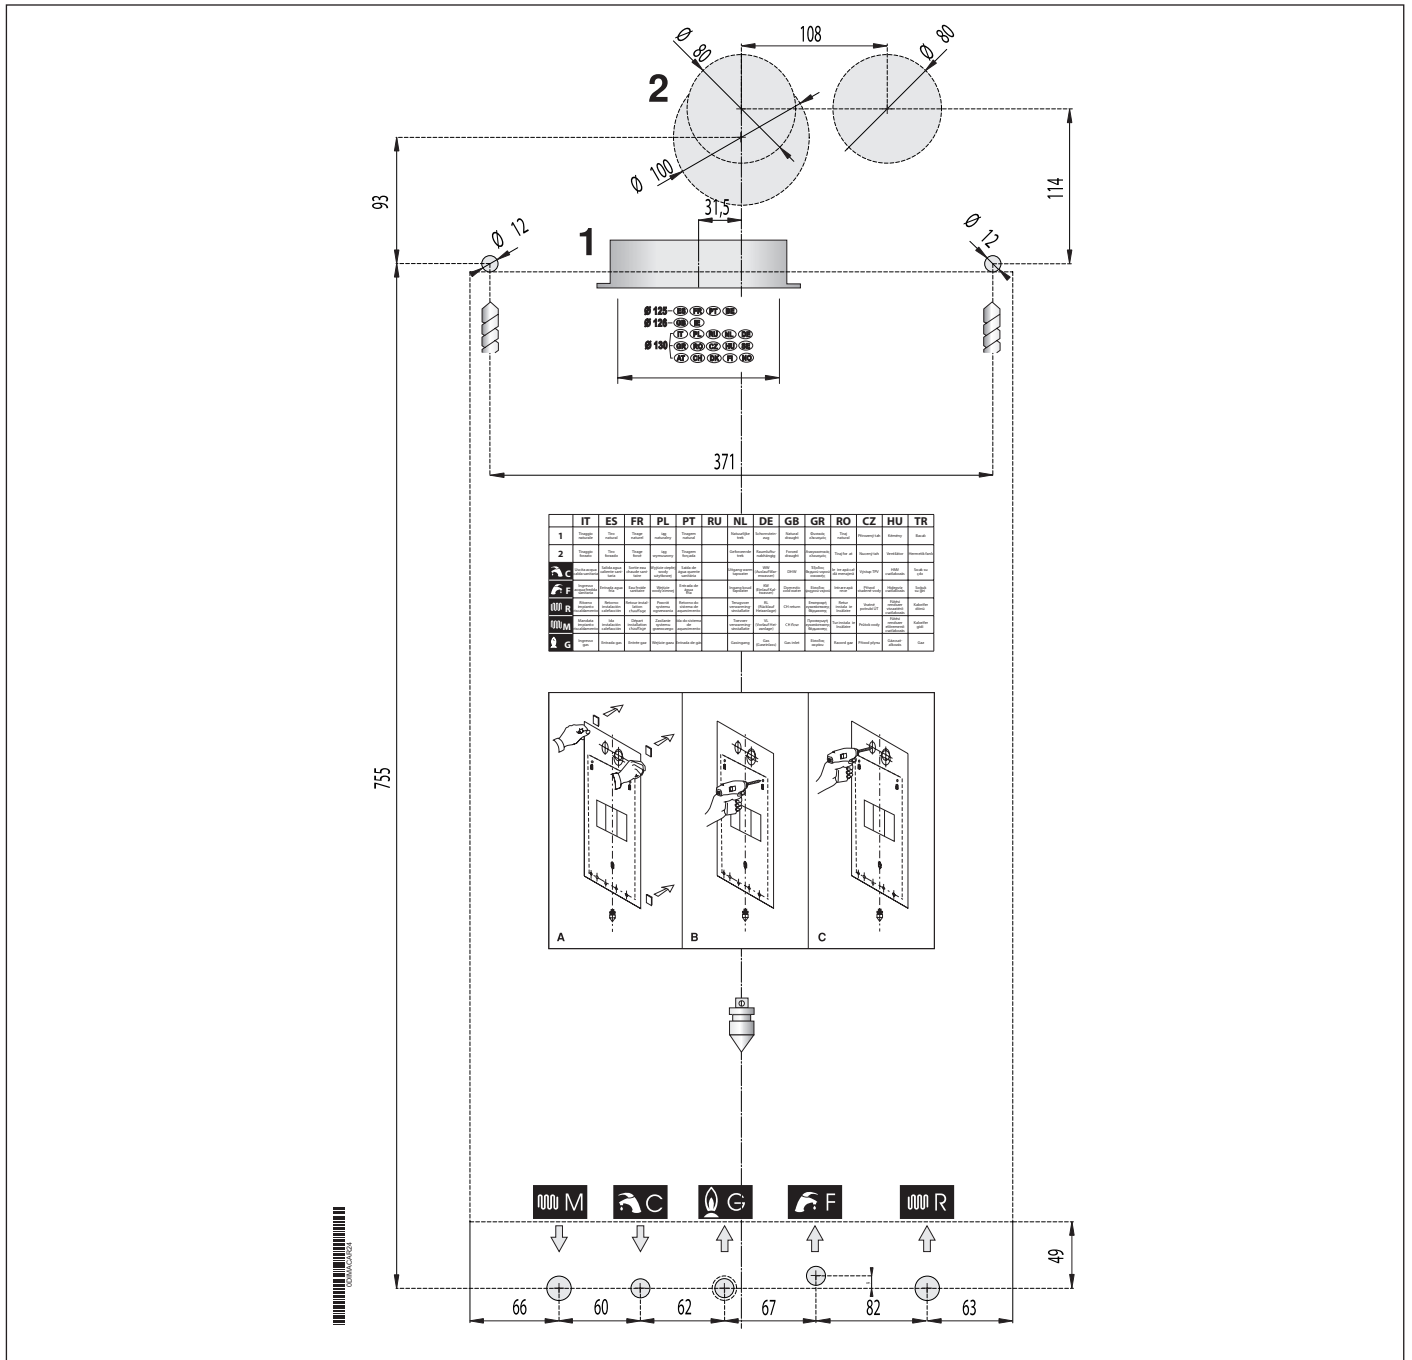

Fig. 5 Paper template
- the template for mounting the boiler on a wall (see Fig. 5 Paper template).
Each boiler is supplied with a paper template, found inside the packaging (see Fig. 5 Paper template).
The CH outlet and return pipes must be connected to the respective 3/4" connectors **M** and **R** on the boiler (see Fig. 5 Paper template).
Cold water inlet and DHW outlet shall be connected to the boiler through the dedicated 1/2" **F** and **C** fittings (see Fig. 5 Paper template).